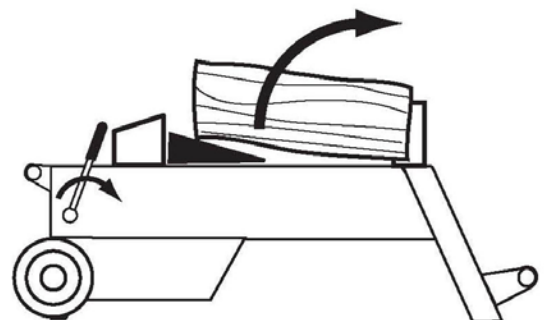

Figure 12
1. Release the Operator Handle so that the Ram fully retracts (*Figure 12*).
2. Insert a plastic or wooden Wedge under the jammed log (*Figure 12*) and activate the Ram to push the Wedge under the jammed log.
3. Repeat this process, using progressively larger Wedges, until the jammed log is free (*Figure 12*).